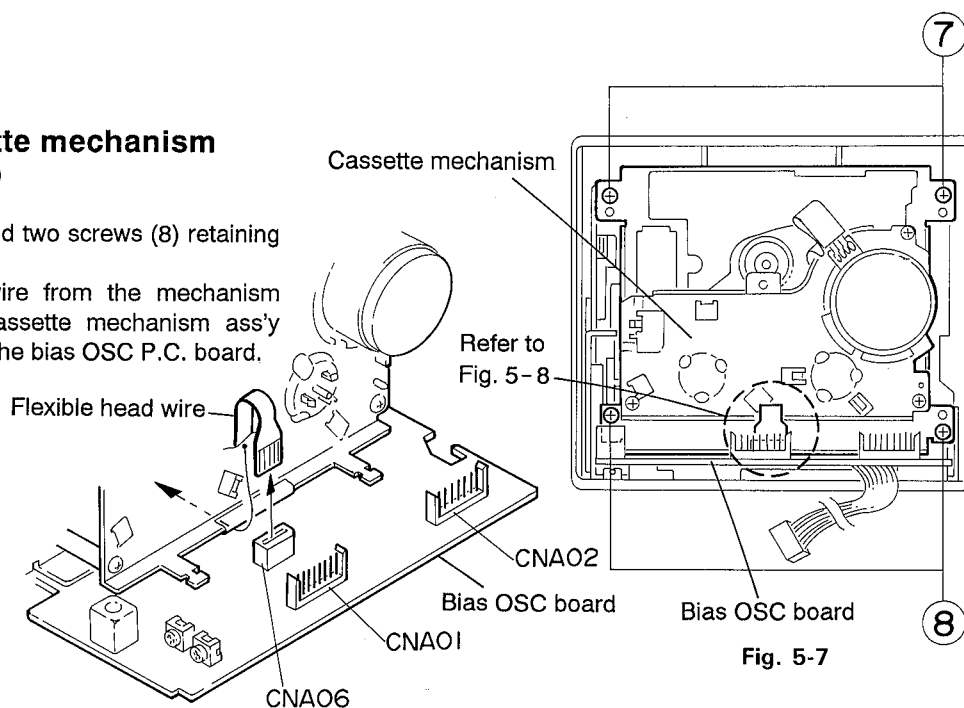

Fig. 5-7
■ Removing the cassette mechanism ass'y (See Figs. 5-7 and 8)
1. Remove the two screws (7) and two screws (8) retaining the cassette mechanism ass'y.